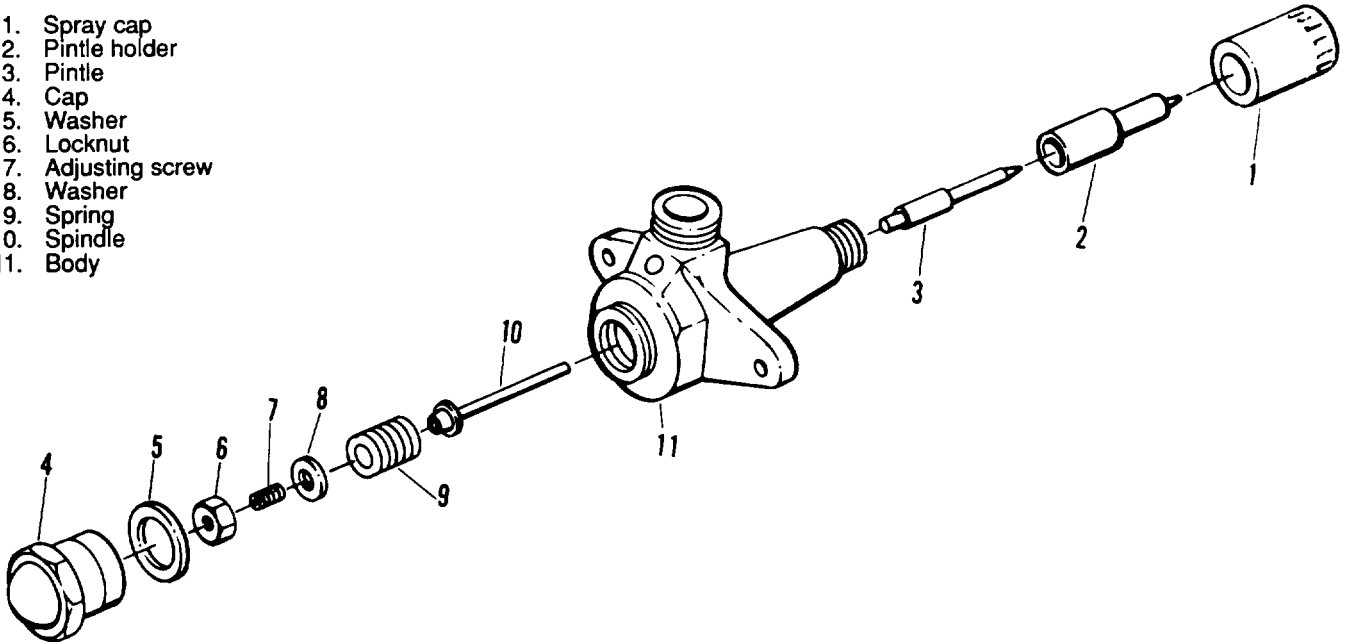

Figure 3-25. Fuel Injection Nozzle Holder, Exploded View
- (1) Unscrew spray cap (1, figure 3-25) and remove pintle holder (2) and pintle (3).
- (2) Remove cap (4) and washer (5).
- (3) Remove lock nut (6), adjusting screw (7), and washer (8) to remove spring (9) and spindle (10) from body (11).
- (1) Install spindle (10, figure 3-25) and spring (9) into body (11).
- (2) Install washer (8), adjusting screw (7) and locknut (6).
- (3) Insert pintle (3) into pintle holder (2).
- (4) Position pintle holder in body and secure with spray cap (1).
- (5) Do not install washer (5) and cap (4) until after adjustment.
(7) Observe fuel spray. Fuel spray shall be even and smooth. Spray cone shall be same thickness at a distance of 5 inches. There shall be no signs of leakage.
(8) Remove fuel pressure and remove nozzle holder from testing fixture.
(9) Install washer (5, figure 3-25) and cap (4).